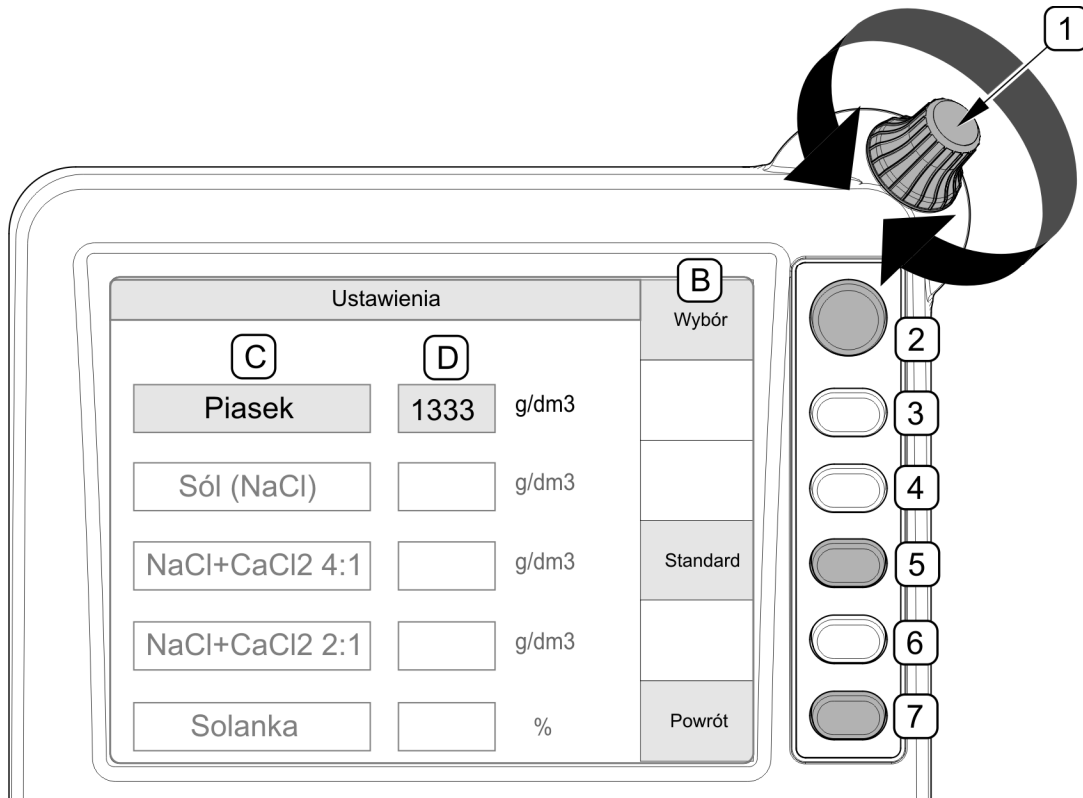

FIGURE 3.9 Example of control panel operation
Depending on a display menu page selected, (FIGURE 3.9) currently assigned functions (B) are displayed next to function push-buttons (2),(3),(4),(5),(6),(7). On each display menu page, different functions are displayed for a given push-button. Empty function field next to push-buttons (3),(4),(6) means that the push-buttons are not active at the moment (FIGURE 3.9). Knob (1) is used for moving to another field (C) and for changing values of parameters in field (D).